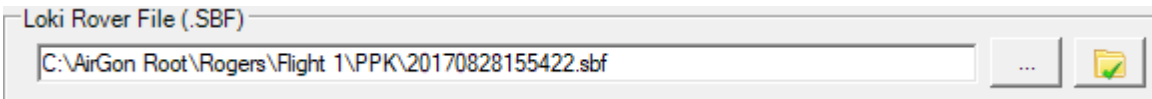

Figure 12 - Select Rover (Loki) File
- Under the field *Loki Rover File* (Figure 12), navigate to and select the sbf file on the Loki device. If you know which sbf file goes with the flight you are importing, you can browse to the file location and select the file. If you have multiple sbf files from different flights, use the Auto Find option. You will need to navigate to the containing folder, then ASP Suite picks the correct sbf file for your images.